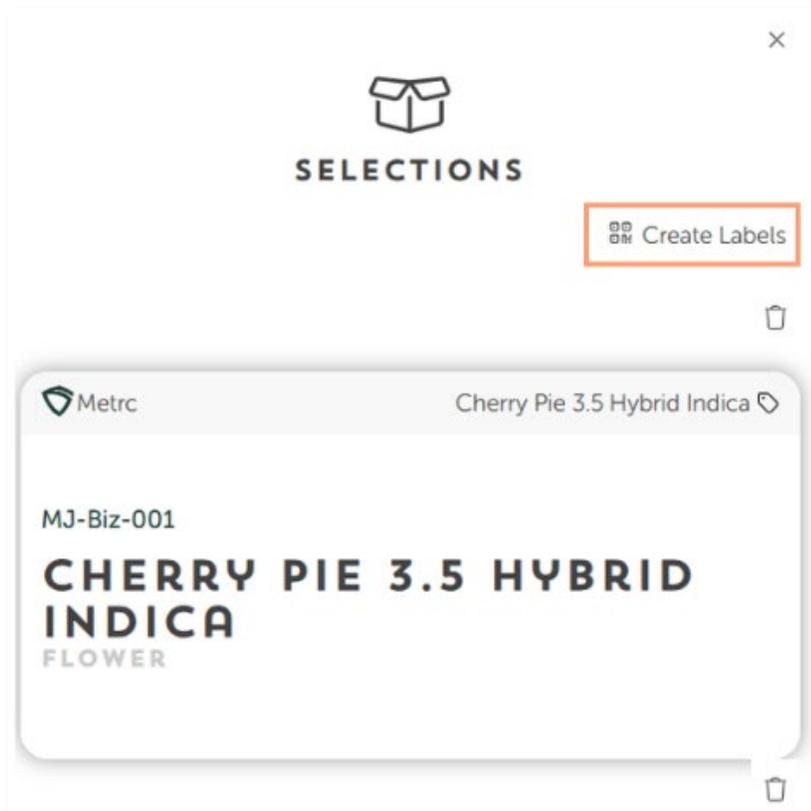

Figure 17: Product Card and Package information preview and Create Labels button
3. In the popup, confirm selections and click Create Labels - **see Figure 17.**